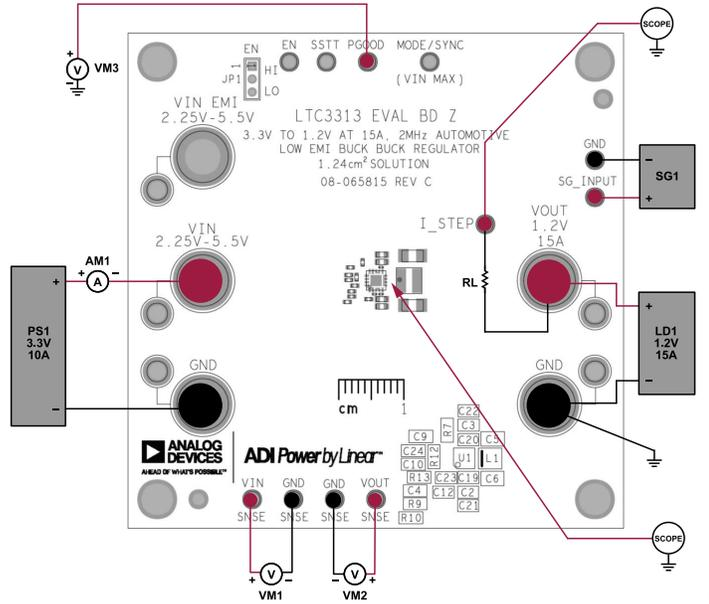

Figure 6. Test Setup for EVAL-LTC3313EV-A-Z
Before following the quick start procedure, note that for accurate V_{IN} , V_{OUT} , and efficiency measurements, measure V_{IN} at the VIN SENSE and GND SNSN turrets and measure V_{OUT} at the VOUT SENSE and GND SENSE turrets, which are illustrated as VM1 and VM2 in Figure 6. In addition, when measuring the input or output ripple, avoid a long ground lead on the oscilloscope probe.
Refer to Figure 6 for the proper measurement equipment test setup and also take the following steps:
14. To test the transient response with a base load, add the desired resistor to produce a minimum load between the V_{OUT} and the I_STEP turrets (RL shown on Figure 6). Note that the total load resistance is $R_L + R_{14}$ (20 m Ω). Adjust a signal generator with a 10 ms period, a 10% duty cycle, and an amplitude from 1 V to 2 V to start.